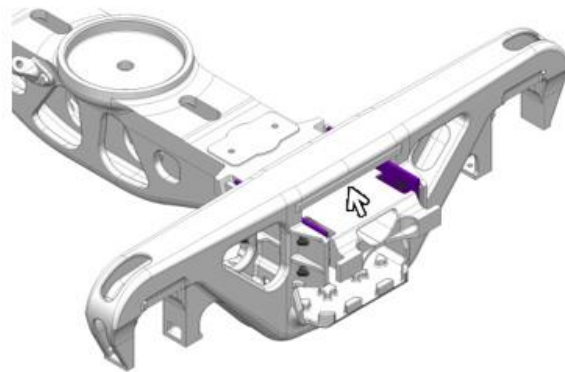

Figure 8: Locating Bolster End in Q4 Side Frame Opening
4. Lift the bolster inside the side frame openings until it contacts the side frame spring roof (Figure 8).